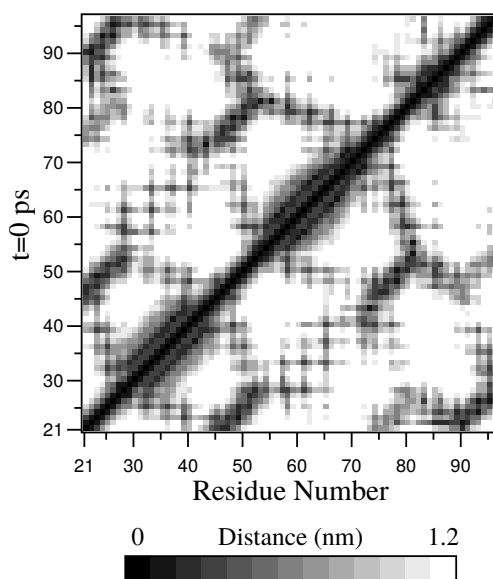

Fig. 5.58: A minimum distance matrix for a peptide 168 (page 546).
- To monitor the *minimum distances between amino acid residues* within a (protein) molecule, you can use the program *gmx mdmat* (page 186). This minimum distance between two residues  $A_i$  and  $A_j$  is defined as the smallest distance between any pair of atoms ( $i \in A_i, j \in A_j$ ). The output is a symmetrical matrix of smallest distances between all residues. To visualize this matrix, you can use a program such as *xv*. If you want to view the axes and legend or if you want to print the matrix, you can convert it with *xpm2ps* (page 258) into a Postscript Fig. 5.58.